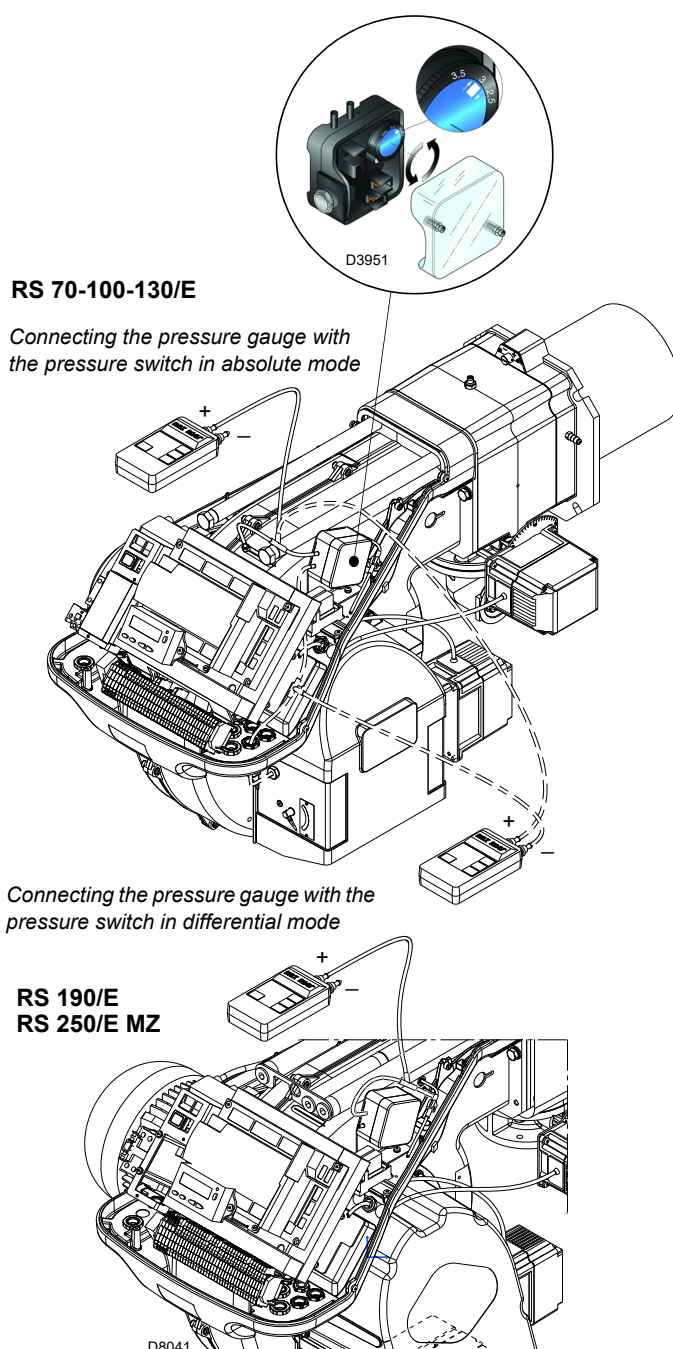

Fig. 31
- Adjust the air pressure switch (Fig. 31 at page 35) to the start of the scale.
Adjust the air pressure switch (Fig. 31) after having performed all other burner adjustments with the air pressure switch set to the start of the scale.
The connection of the pressure gauge is shown in Fig. 31.
In this case also, the pressure gauge must be connected in differential mode, as shown in Fig. 31.